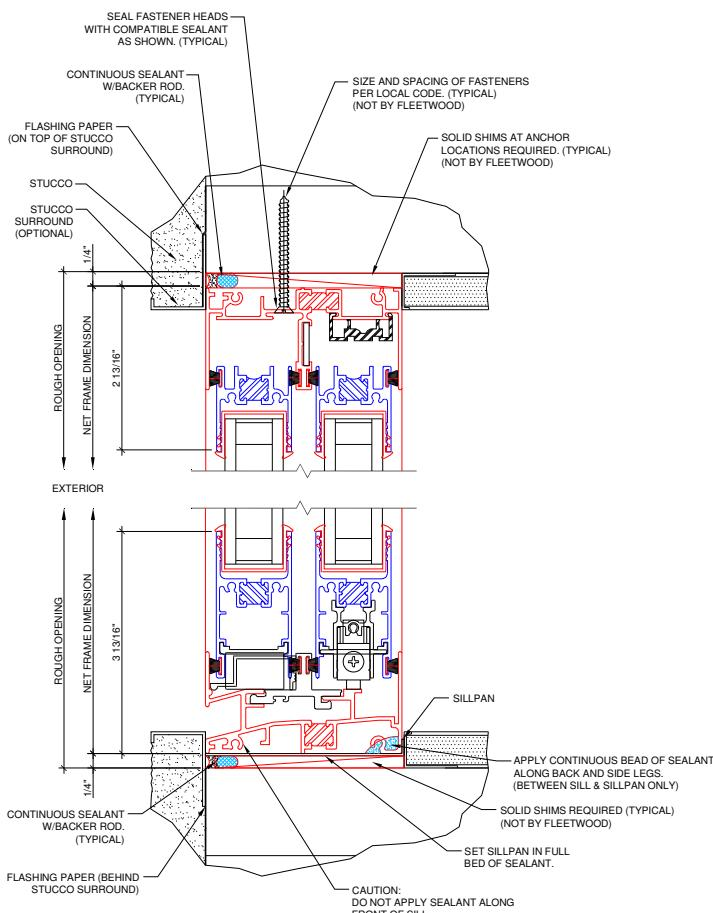

Figure 13:
3. Apply a continuous bead of sealant along the back and side legs between the sill and sill pan (Figure 13,14) and insert the frame into the opening.